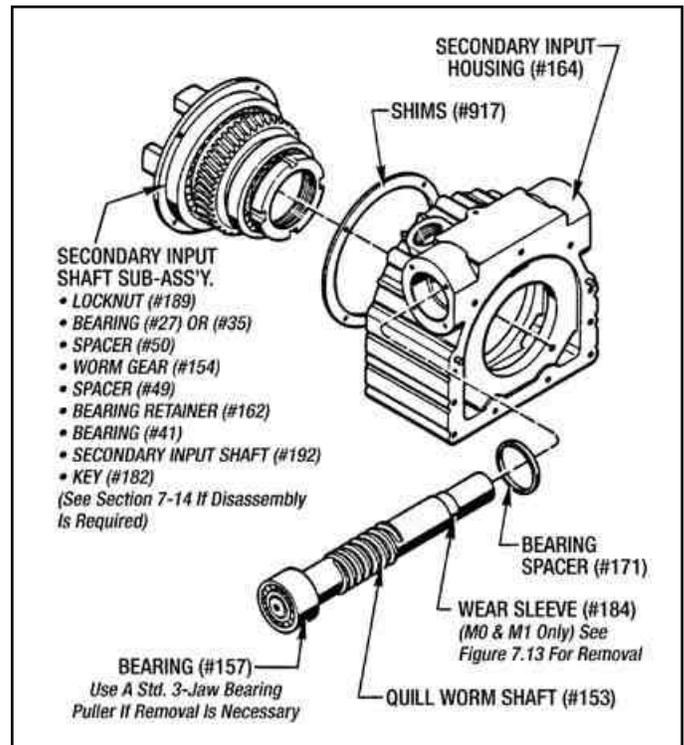

Figure 7.12 - Removing Worm Shaft (#153) And The Secondary Input Shaft Sub-Assembly
4. On the opposite side of the drive side remove (4) Screws (#159) and (4) Lockwashers (#175). Remove the Bearing Retainer (#156) and the Gasket (#161). Discard the gasket when removed.
8. Unscrew and remove (4) Screws (#278) and (4) Lockwashers (#126). The Bearing Retainer (#163) can now be removed from the Housing (#164).
9. Slide the Secondary Input Shaft Sub-Assembly out of the Housing (#164) as shown in Figure 7.12.